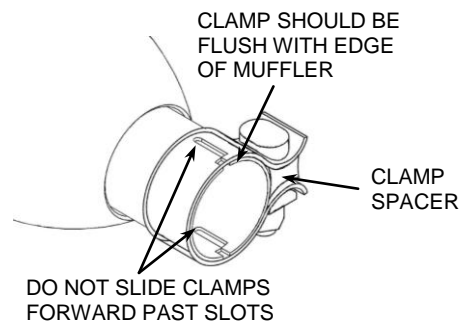

FIGURE 2
11. Tighten the muffler clamps. (NOTE: The muffler clamps should be flush with the end of the muffler when tightened. **See Figure 2.** If the muffler clamps are slid past the slots on the slip collar the clamps will not tighten the mufflers properly).